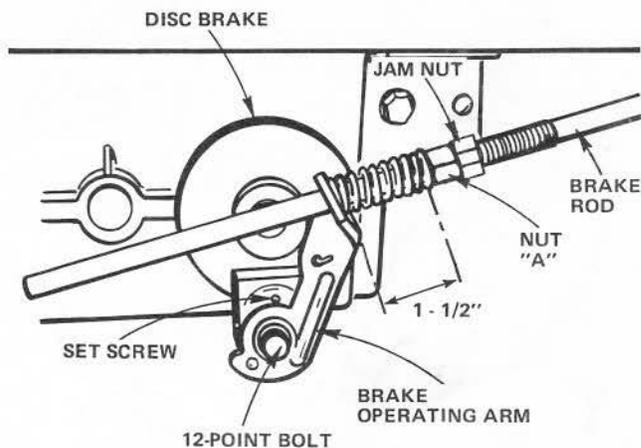

FIGURE 27
This tractor is equipped with an adjustable disc brake mounted on the right side of the transaxle (Fig. 27).
- To adjust, tighten Set Screw (Fig. 27) clockwise (↻) until Disc Brake can not be moved by hand. Now loosen Set Screw by turning counterclockwise (↺) 1/2 turn. NOTE: PARKING BRAKE MUST BE DISENGAGED AND GEAR SHIFT LEVER IN NEUTRAL WHILE MAKING ADJUSTMENT.
- If distance is other than 1 - 1/2", loosen Jam Nut (Fig. 27) and turn Nut "A" until distance becomes 1 - 1/2". Retighten Jam Nut against Nut "A".